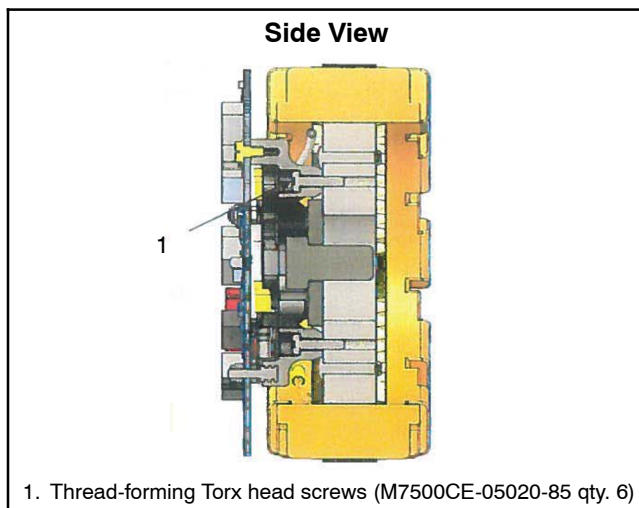

Figure 6 Spacer (GM98936) Installation
- 4.1 Mount the new spacer (GM98936) to the exciter armature using 6 thread-forming Torx head screws (M7500CE-05020-85). See Figure 6 and Figure 11.